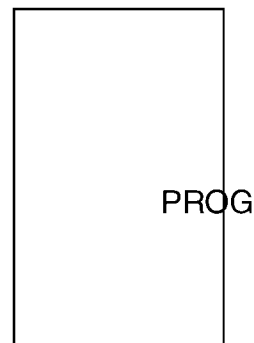

Figure-2.7 Enter Program Mode Frame.
7. Continue to press <Select> scrolling through the remaining Setup Mode attributes, until the Enter Program Mode frame appears (Figure-2.7).